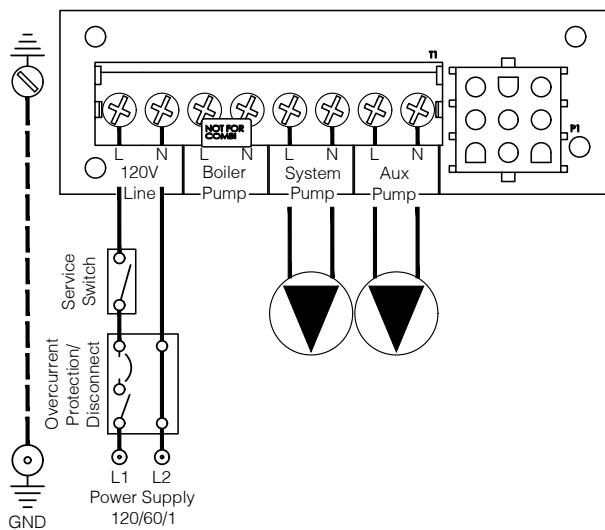

Figure 13-2: 120 VAC Connections
- Connect recirculation pump to "Aux Pump" terminals per Figure 13-2.
2. All 120 VAC connections to boiler are made on 120 VAC Connections terminal strip (see Figure 13-2) located on right side of bottom panel. Route all 120 VAC wiring through conduit knock out holes located on right side in front of terminal strip.